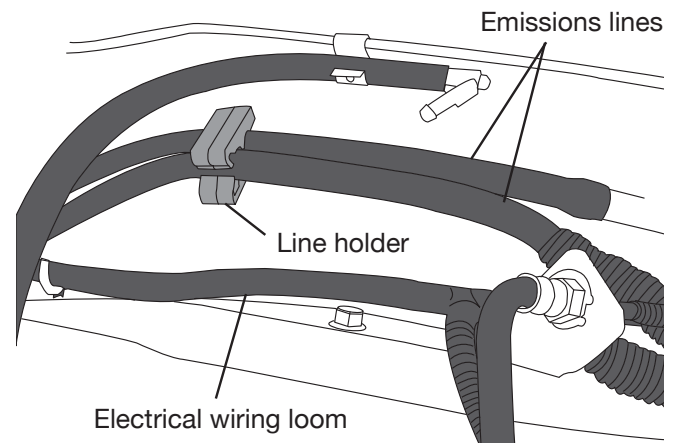

Fig. 3
If your model truck has emission lines running along the inside of the frame rail (fig. 3), it will be necessary to relocate those lines as follows. Follow the directions in the section, "Attaching the Assemblies to the Frame" for reattaching these lines.
- Carefully push the line holder out of the frame above the axle. Try to minimize damage because it will be reused later. It may also be helpful to remove any holders forward or rearward of the axle to aid in positioning the lines once the upper bracket has been installed (fig. 3).